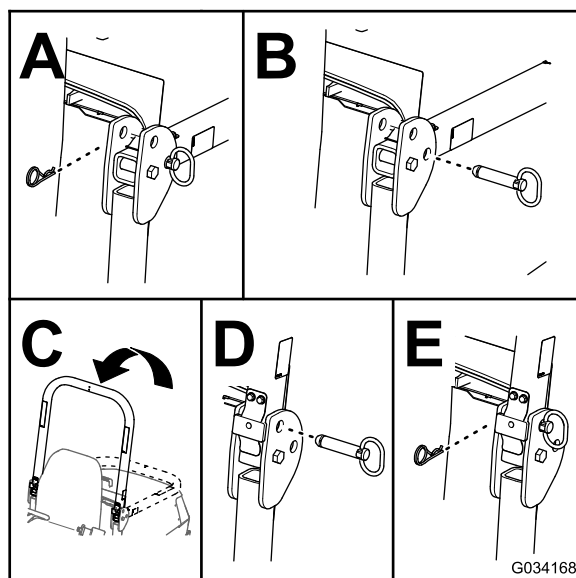

Figure 23
2. Remove the cotter pins and pins from the roll bar (Figure 23).
3. Raise the roll bar and secure it in place with the pins and cotter pins (Figure 23).